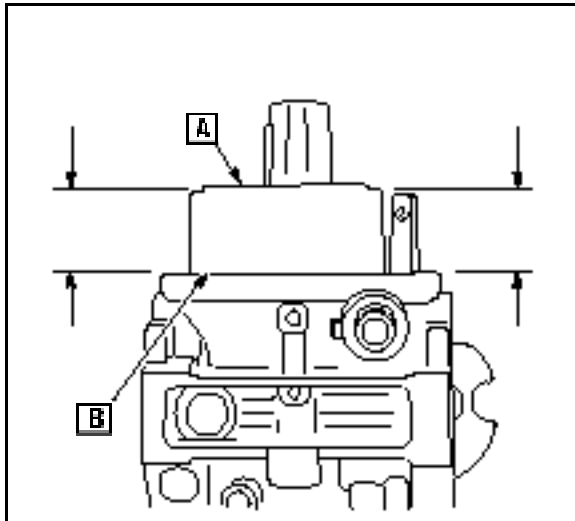

Fig. 68
18. Turn the carburetor body upside down. The float (A) should be parallel to the float bowl mounting surface ([B] Fig. 68).